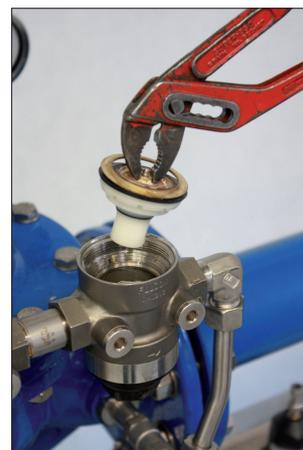

Figure 45: Removing the internal parts
4. Remove the internal parts of the body from above (see Figure 45).